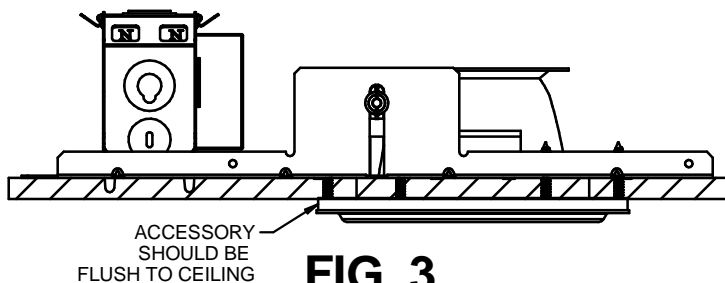

FIG. 3
2. Using a drill driver, insert one of the #8 self-tapping screws directly through the ceiling material and into the plaster frame. Do not completely tighten. Repeat for the remaining screws. It is recommended to tighten all the screws equally to ensure proper installation. The ring should be flush to the ceiling (Fig 3).